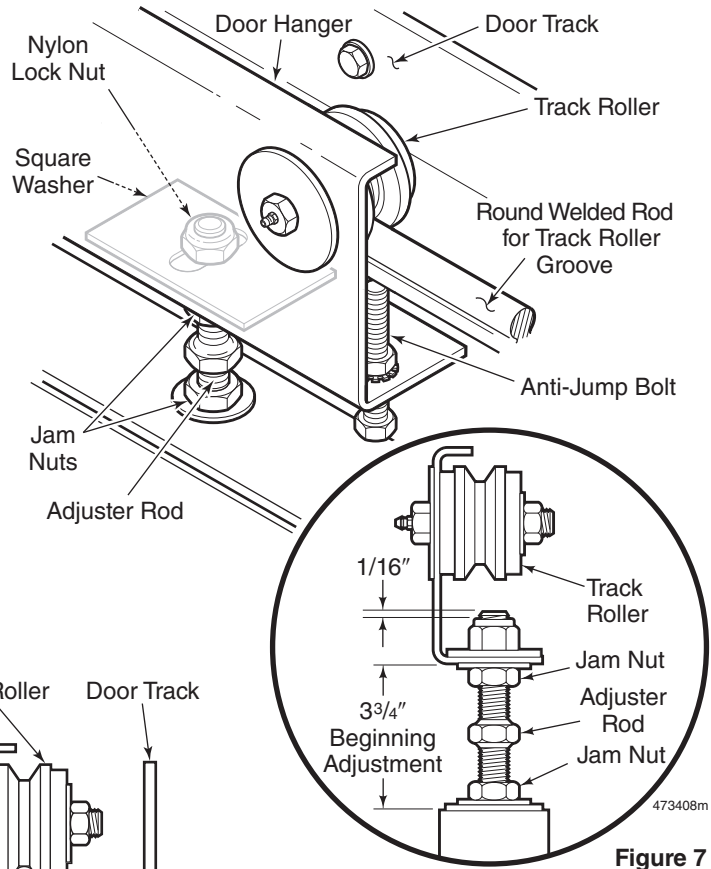

Figure 7
1. Install the Door Hanger on top of the door. Fasten it to the door with the Square Washers, flat washers, Jam Nuts, nylon Lock Nuts, and 3/4" Adjuster Rods. Make sure the Adjuster Rod comes through the nylon Lock Nut on the Square Washer no more than 1/16". Adjust the Door Hanger *temporarily* to 3-3/4" from the top of the door to the bottom of the Channel. Final adjustment is made after the Door is hanging on the Door Track. See Figure 7.
1. For a single slide door, set the door in the closed position and adjust the door height so the Sweep Gasket lightly touches the floor and the door lines up with the side frames. See Figure 9. To adjust the height, loosen the top and bottom Jam Nuts on both Adjuster Rods and raise or lower the door with the welded nut on the Adjuster Rod. Tighten the Jam Nuts to lock the door in position. See Figure 7.
2. For a bi-parting door, set the doors in the closed position and adjust the door height so the Sweep Gasket lightly touches the floor. Use the Adjuster Rod to align the two door leaf sections for a proper seal where the doors come together. The door leaves should be parallel and have a uniform seal from top to bottom. See Figure 9. To adjust the height, loosen the top and bottom Jam Nuts on both Adjuster Rods and raise or lower the door leaf with the Adjuster Rod. Tighten the Jam Nuts to lock the door in position. See Figure 7.